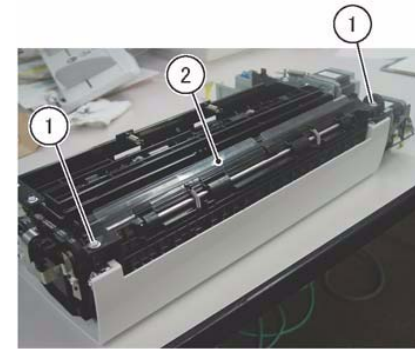

Figure 1 Registration Chute Removal
8. Remove the Registration Chute. (Figure 1)